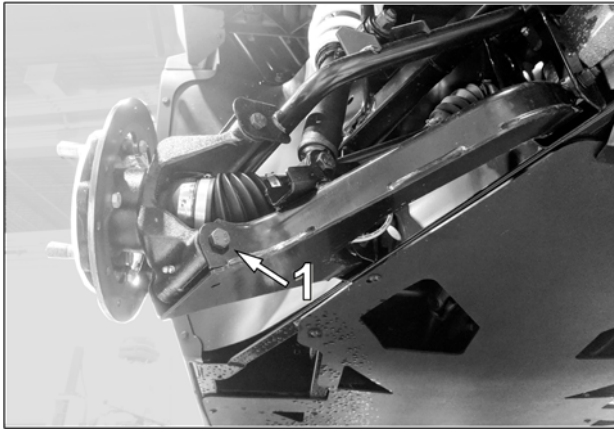

Fig. 5
5. Remove bolt (1) that links lower suspension arm to wheel knuckle. See Fig. 5